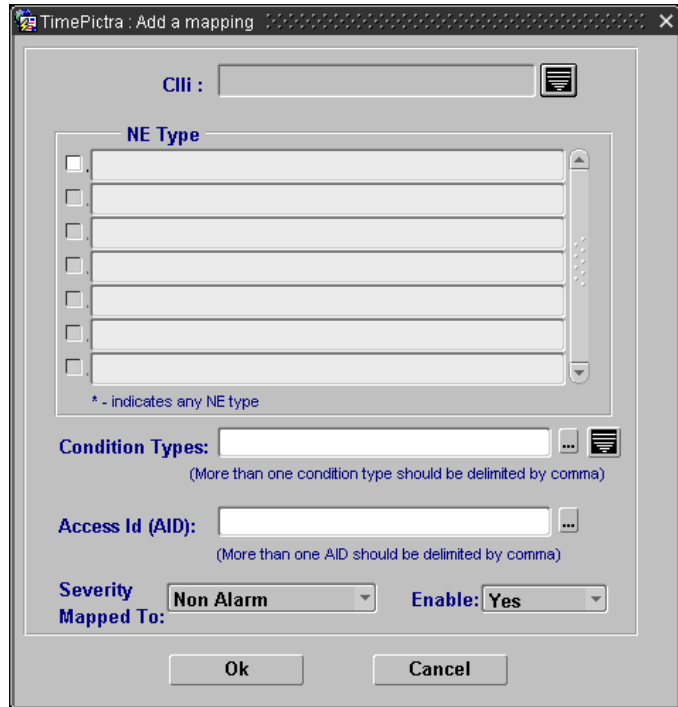

Figure 6-15. TimePictra Add Alarm – Event Screen
2. To create a mapped severity, click **Add Mapping** to display the **Add Alarm - Event** screen (Figure 6-15).
10. To edit, delete, or copy the mapping entries, highlight the row to be changed and click the appropriate button. Click Show Mapping to open the Mapping Details screen. Click Refresh to update the Alarm Mapping screen. (see Figure 6-15).